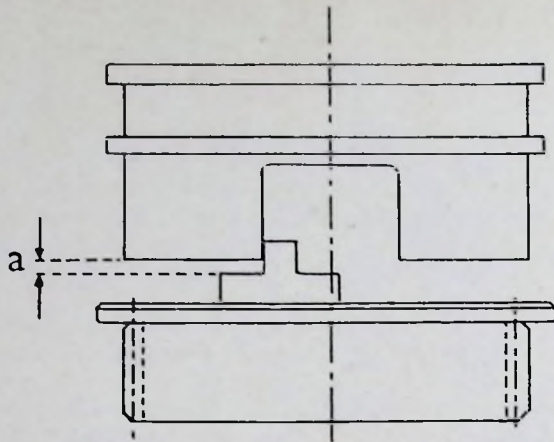

FIG. 58.—"Dogs free".
(1) When solenoid is not energised, the dogs are in the free position as shown in Fig. 58. Note that the gearbox linkage has already been adjusted to give a clearance ("a") of .035".